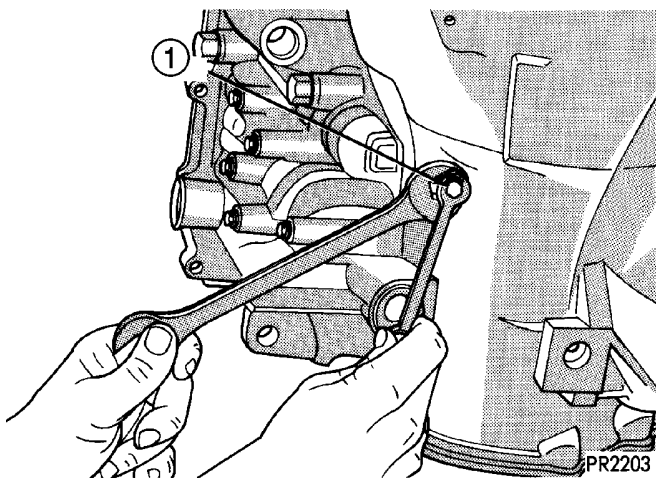

Fig. 17 Kickdown Band Adjusting Screw Lock Nut
(18) Loosen kickdown band adjusting screw lock nut (Fig. 17).